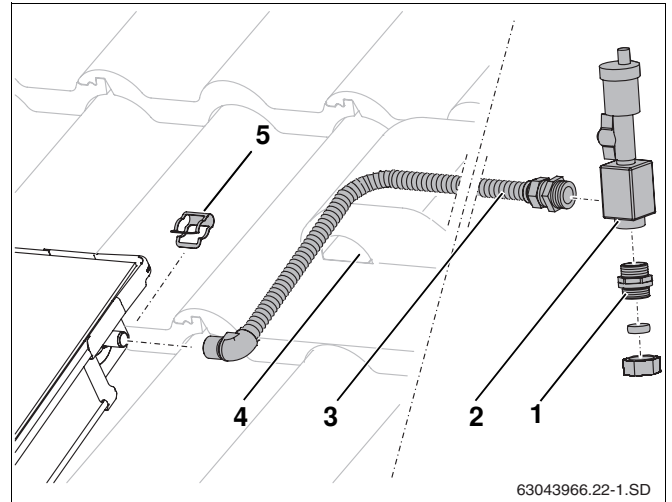

Fig. 36 Fitting the air vent valve under the roof
- Push connection pipe (Fig. 36, **Item 3**) onto the flow connection on the collector array and fix in place using bracket (Fig. 36, **Item 5**).
- Feed connection pipe together with the sensor cable through the de-airing tile (Fig. 36, **Item 4**) and through the roof insulation.
- Firmly screw connection pipe (Fig. 36, **Item 3**) and double threaded fitting (Fig. 36, **Item 1**) into air pot (O-ring gasket).
- Connect header pipe to double threaded fitting with compression fitting (Fig. 36, **Item 1**).